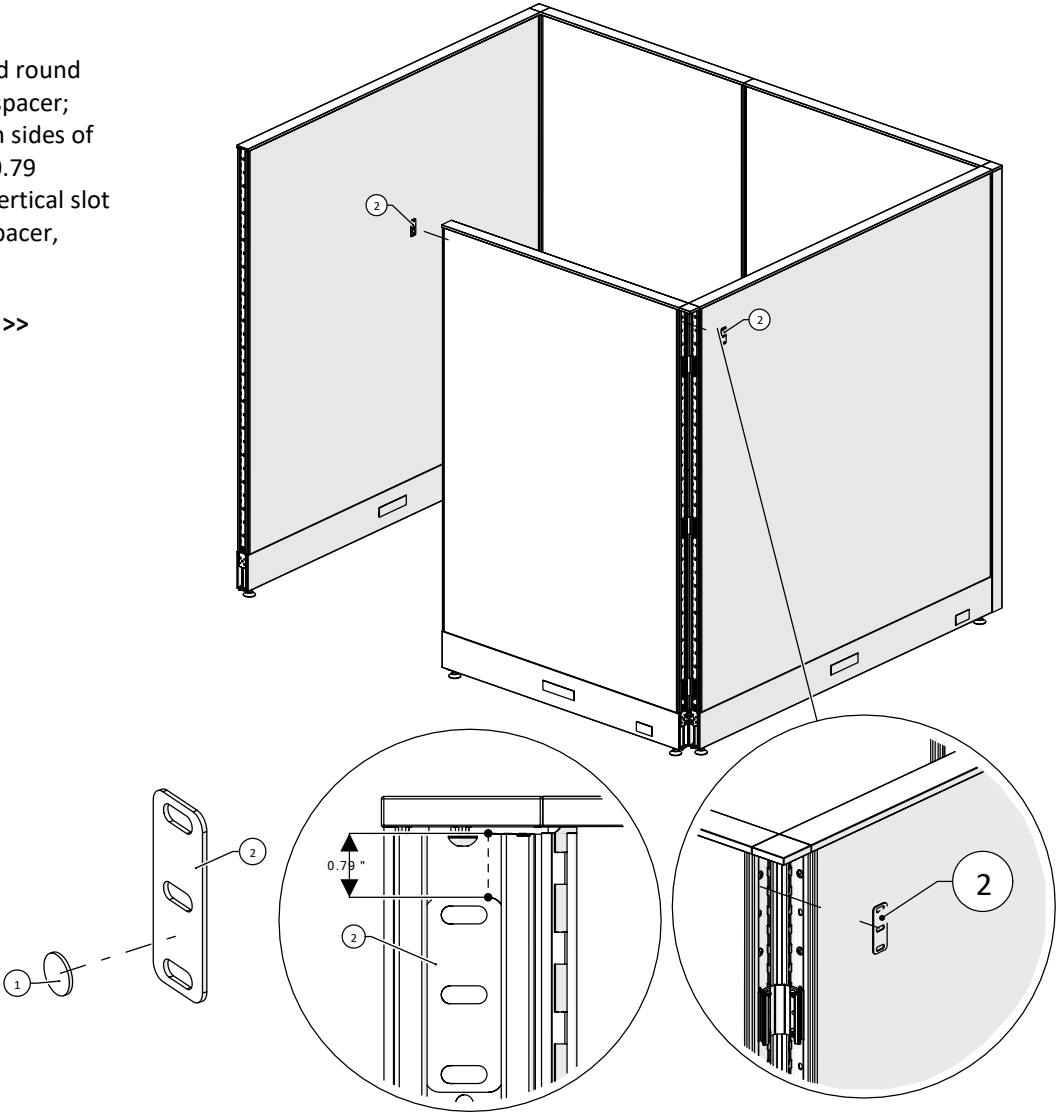

Figure 2
- 2. Peel off the double-sided round tape and stick it on the spacer; place the spacer on both sides of the frame at 20 mm or 0.79 inches from the top of vertical slot to the top edge of the spacer, (Figure 2).